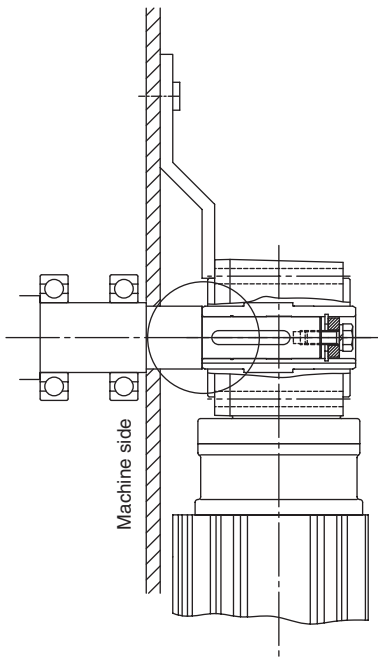

Fig. C-3 Positioned by Shaft Shoulder
(2) Securing the Hyponic Drive to driven shaft.
a) Positioning the Hyponic Drive to prevent movement towards the machine side (Ex.: Figs.C-3~C-5)